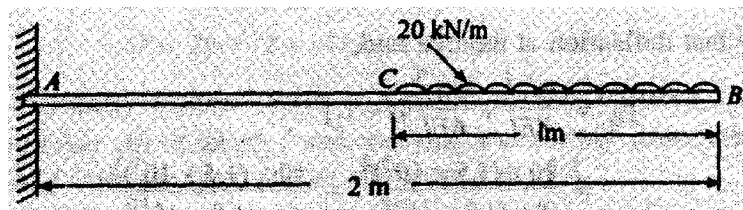

Fig. 5
- (b) A cantilever 75 mm wide and 200 mm deep is loaded as shown in Fig. 5. Find the slope and deflection at B. Take  $E = 200 \text{ GPa}$ . [6]